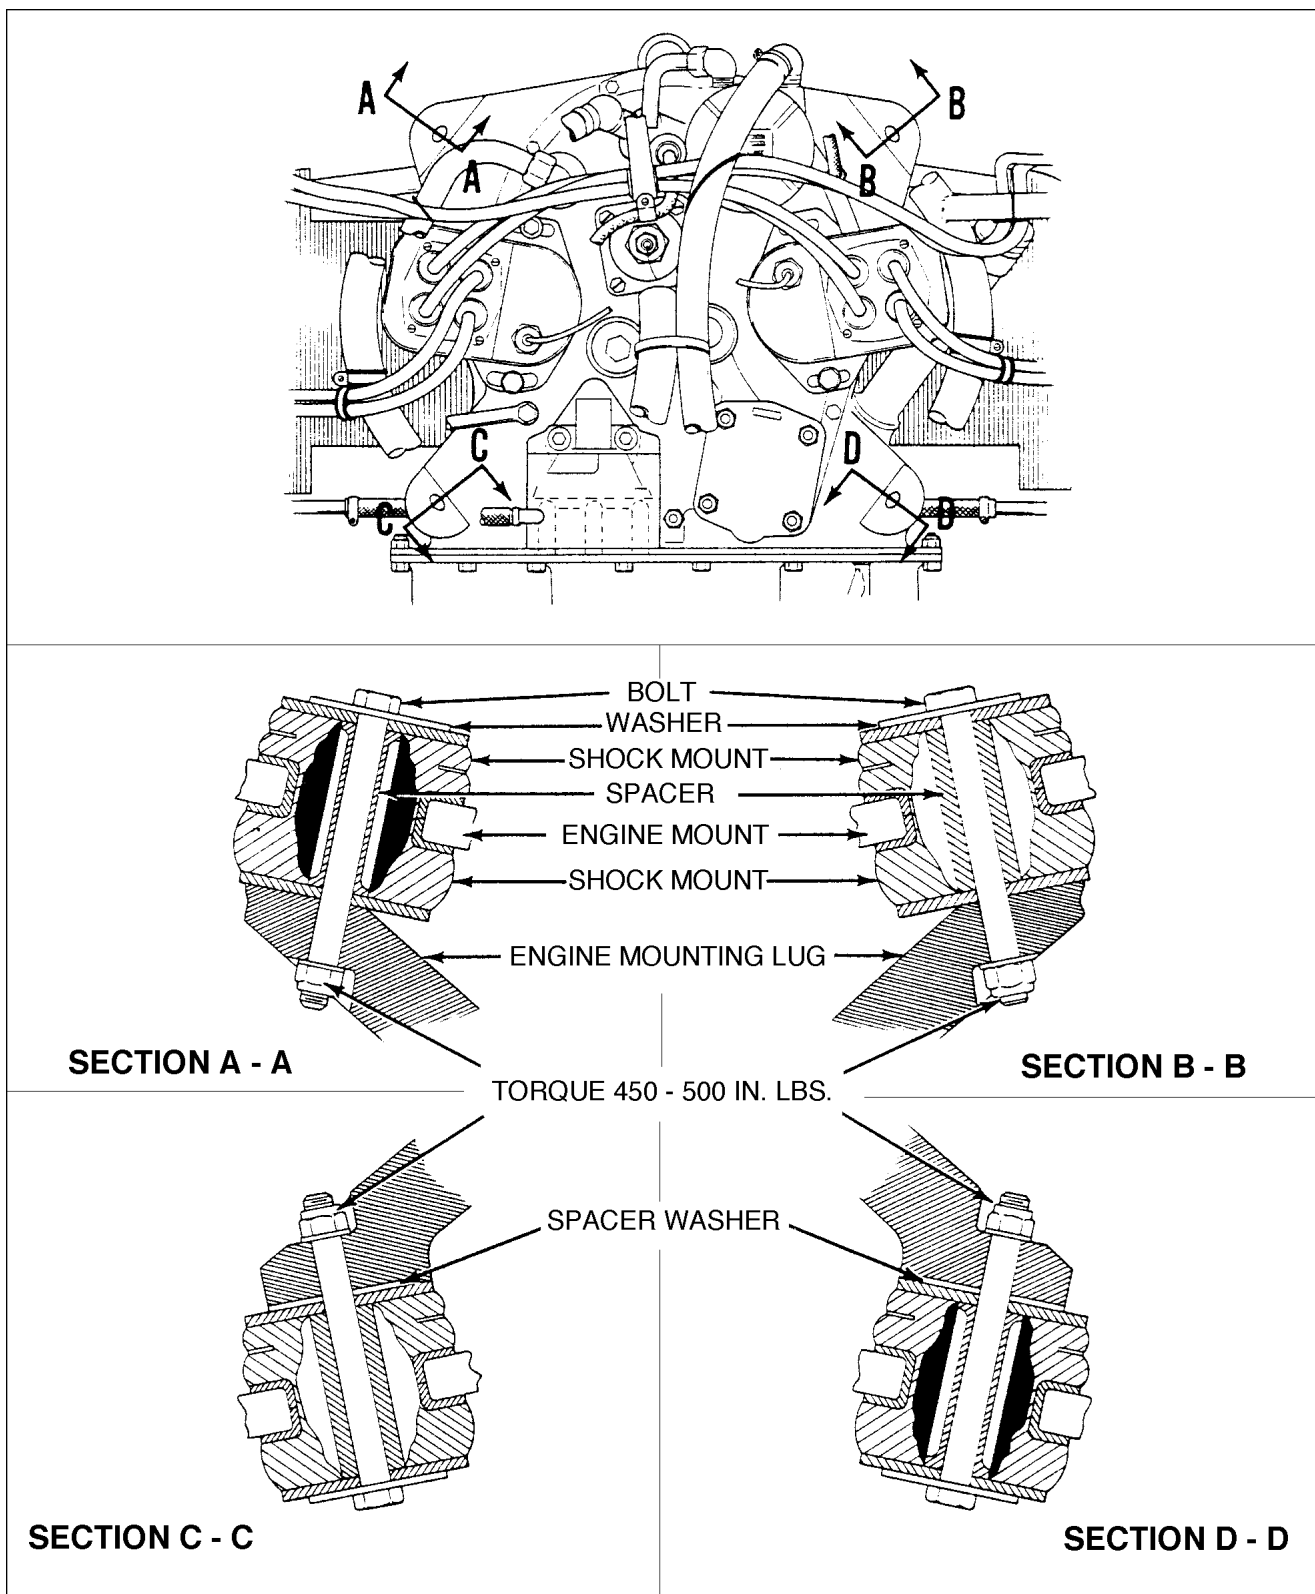

Figure 8-4. Engine Shock Mount Installation
- c. Assemble the engine shock mounts as shown in Figure 8-4. Note the position of each mount carefully. The upper right and lower left mounts are installed the same. The upper left and lower right are installed the same.
8-12. INSTALLATION OF ENGINE SHOCK MOUNTS. (Refer to Figure 8-4.)
- a. Assemble the engine shock mounts on the engine mount as shown in Figure 8-4. Note the position of each mount carefully. The upper right and lower left mounts are the same, as are the upper left and lower right.